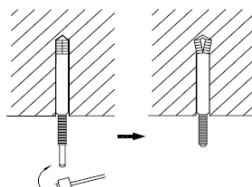

Fig.7
- (3). Insert the anchor bolts into the drilled holes, and drive the pins completely into the anchor bolts with a hammer. (Fig.7)